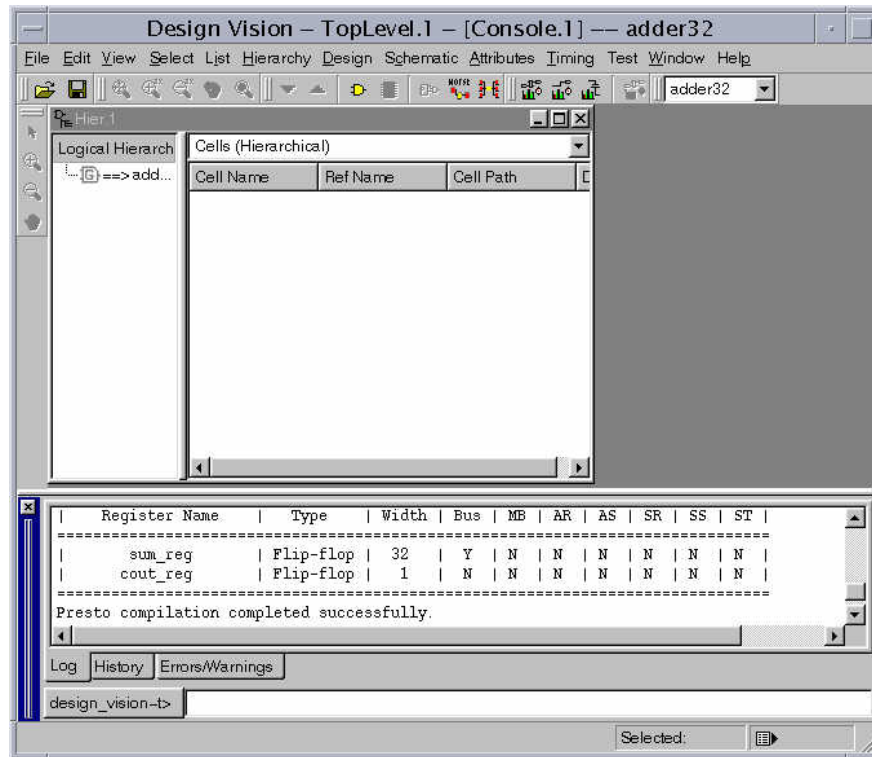

Figure 4-13 Design Vision window with the design - adder32.
5. Then click on **Open** on Read Designs window. The design is read in as shown in figure 4-13. You will see an icon labeled adder... in the **Hier.1 window** under the heading **Logical Hierarchy**.